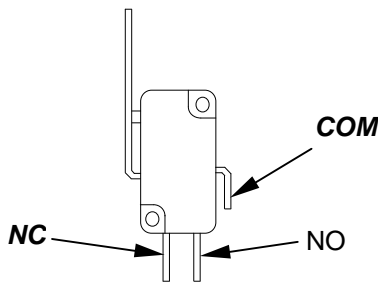

Figure 9. Microswitch terminals.
15. Open the breaker. Connect six wires to the available terminals on the Network Interlock device using the crimp-on terminals provided. Connect two of the wires to the NC and COM terminals of the microswitch as shown in Figure 9.